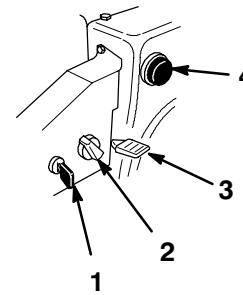

Figure 14
- **Ignition Switch** (Fig. 14)—Insert the key before starting the engine. To stop the engine, remove the key.
- **Choke** (Fig. 14)—Rotate the choke to the *Full* choke position to start a cold engine. As engine warms up, move choke gradually to the *Off* position.
- **Throttle** (Fig. 14)—Move the throttle upward to increase engine speed and downward to decrease engine speed.
- **Primer** (Fig. 14)—Press the primer to pump a small amount of gasoline into the engine to improve cold-weather starting.
2. Remove the key from the ignition switch (Fig. 14).
3. Pull the choke knob off (Fig. 14).
1. Move the speed shift control to the *N (Neutral)* position and the throttle (Fig. 14) to the *Fast* position.
4. Rotate the choke (Fig. 14) to the *Full* position.
5. Insert the ignition key (Fig. 14).
6. Cover the hole in the center of the primer (Fig. 14) with your thumb and slowly push in the primer three times, pausing between each push.
8. After the engine starts, immediately rotate the choke (Fig. 14) to the $3/4$ position. As the engine warms up, rotate the choke to the $1/2$ position. When the engine warms up sufficiently, rotate the choke to the *Off* position.